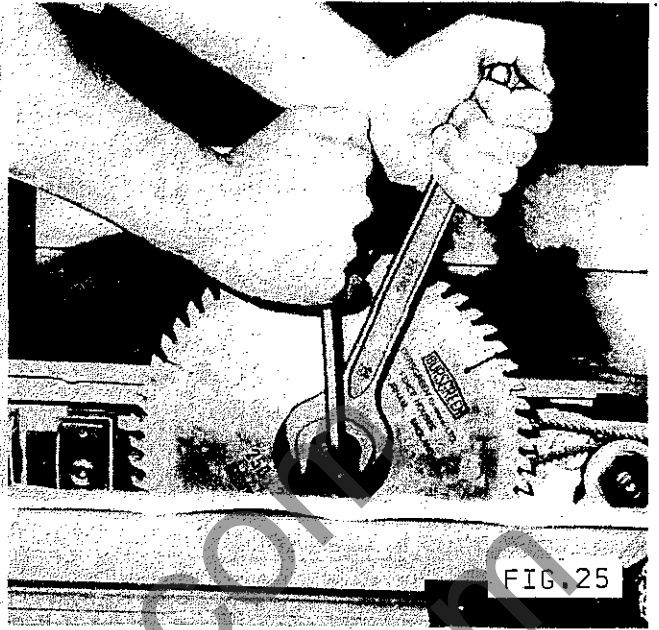

FIG. 25
- 7) Lock saw securely in position with arbor nut (left hand thread) as shown in FIG.25.